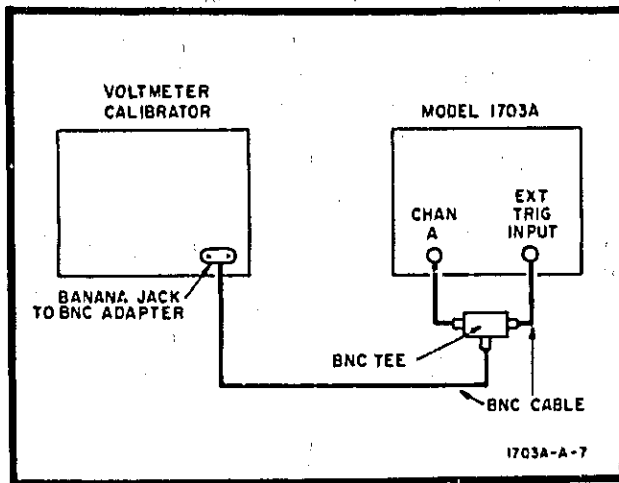

Figure 5-16. Main Trigger Level Range and Polarity Test Setup
- a. Connect instruments as shown in figure 5-16.